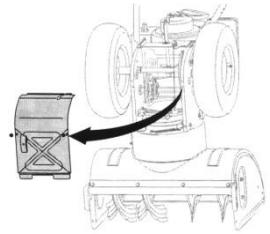

Fig. 16
- Undo the screws securing the protection. See Fig. 16.